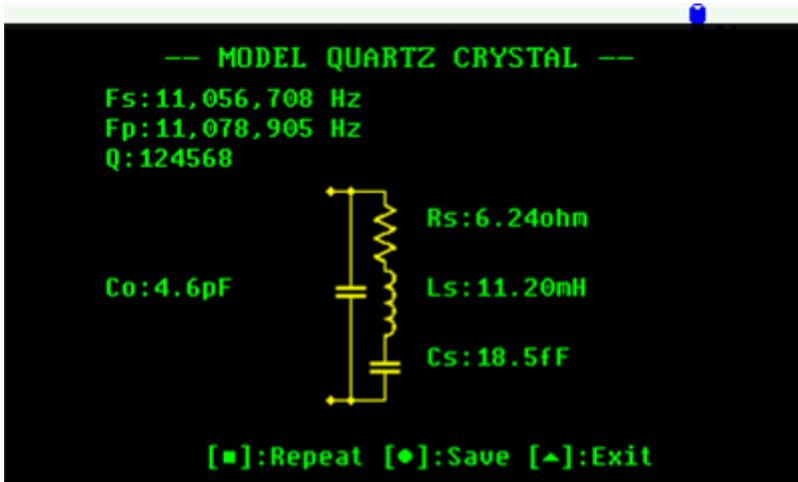

Figure 3, Equivalent circuit model of an 11 MHz crystal
- Step 7. After some seconds the results are shown on the screen (Figure 3). It is convenient saving the screen by selecting [●]